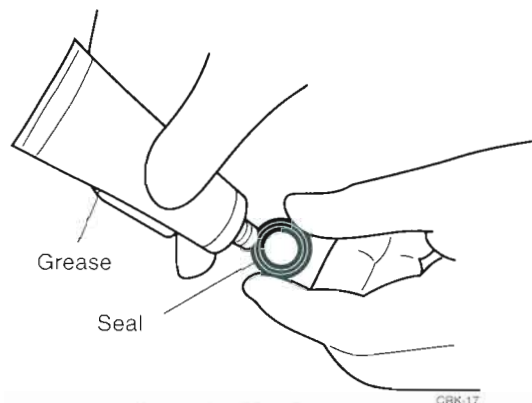

Figure 8.22 Grease the New Seal
STEP 1. Grease the seal lips. Prior to installing either seal, apply a small amount of clean grease both around and behind the seal's neoprene lip (Figure 8.22).